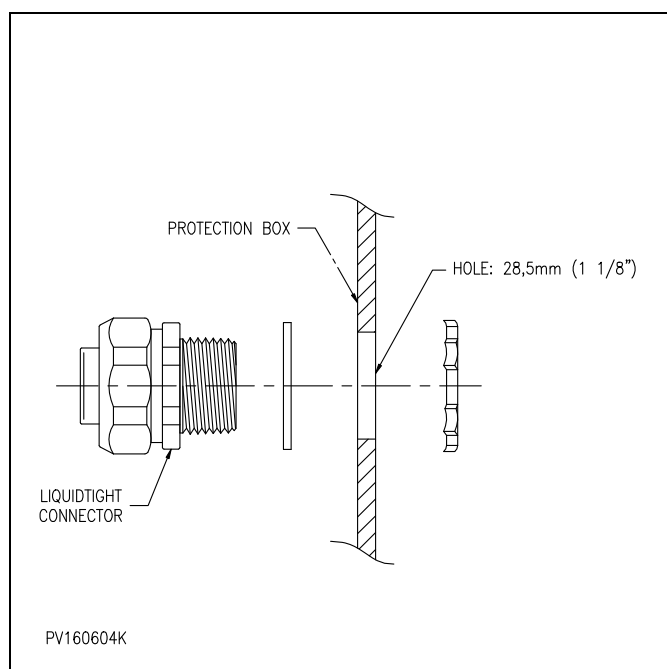

Figure 5 : Mounting the liquidtight connectors on ABS protection box
2. Drill holes and install the the liquidtight connectors. Refer to *Figure 5 : "Mounting the liquidtight connectors on ABS protection box"*.